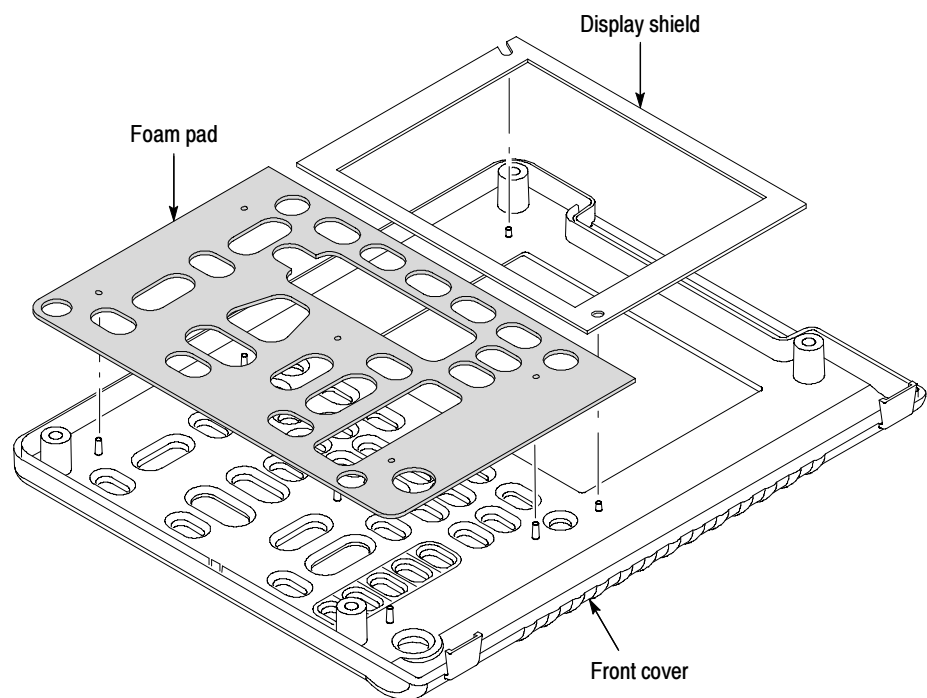

Figure 15: Assembling a new front cover
4. If you are installing a new front cover, follow these steps to assemble it before installation. Refer to Figure 15.
- c. Install new foam pad as shown in Figure 15.